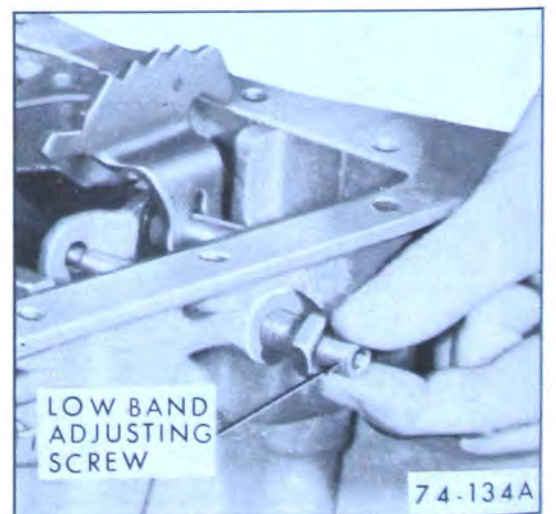

Figure 74-305
1. Install low band adjusting screw into case. See Figure 74-305.